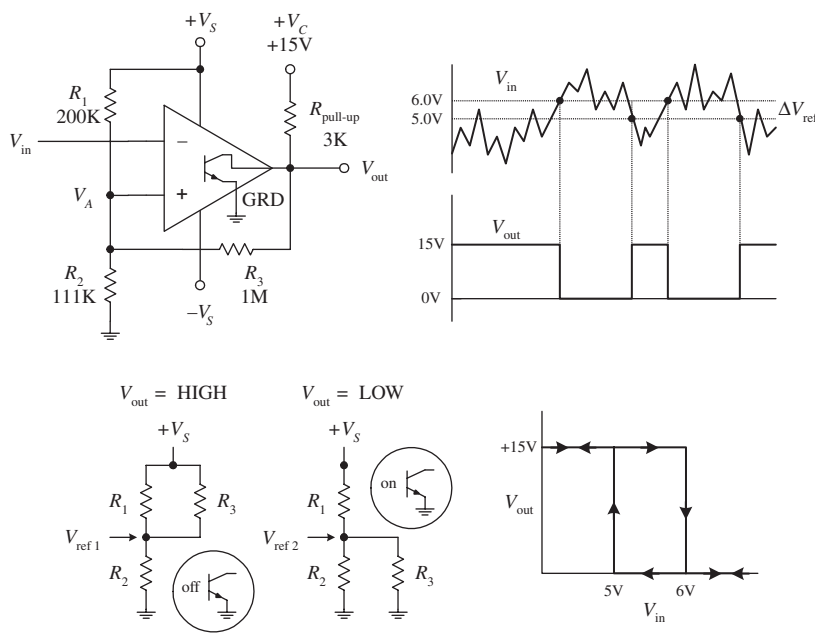

FIGURE 8.30
In the inverting comparator circuit shown in Fig. 8.30, positive feedback through R_3 provides the comparator with two threshold voltages or triggering points. The two threshold voltages result from the fact that the reference voltage applied to the noninverting terminal is different when V_{out} is high (+15 V) and when V_{out} is low (0 V)—a result of feedback current. Let’s call the reference voltage when the output is high V_{ref1} , and call the reference voltage when V_{out} is low V_{ref2} . Now let’s assume that the output is high (transistor is off) and $V_{in} > V_{ref1}$. In order for the output to switch high, V_{in} must be greater than V_{ref1} . However, what is V_{ref1} ? It is simply the reference voltage that pops up at the noninverting terminal when the output transistor is off and the output is high (+15 V).